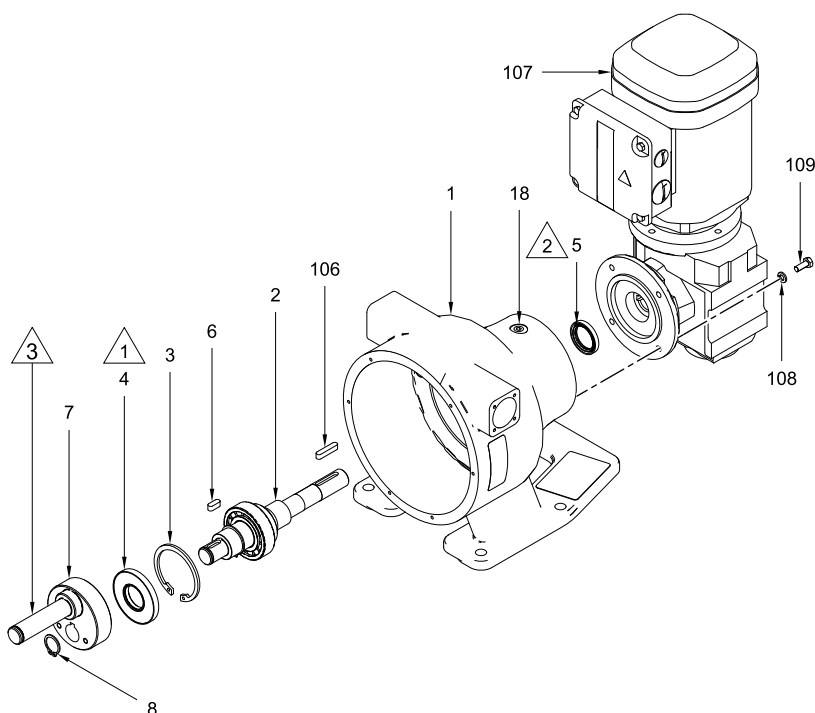

Figure 7 Install the Motor Output Shaft and Eccentric Shaft
1. Press a new inner u-cup seal (5) onto the gearbox end of the shaft (2) and into the bore at the rear of the pump housing (1). The lips of the u-cup must face into the pump housing. See Figure 7.
2. Grease the pump with NLGI #2 type grease. Remove the plug (18) from the pump housing and replace it with a zerk fitting. Add grease until it passes through the outer bearing of the shaft. This provides a visual reference of the proper amount of grease. Do not over-grease. Remove the zerk fitting and reinstall the plug (18).
3. Press a new outer u-cup seal (4) onto the pump end of the shaft (2) and into the bore at the front of the pump housing (1). The lips of the u-cup must face toward the shaft bearings.
Key for Figure 7